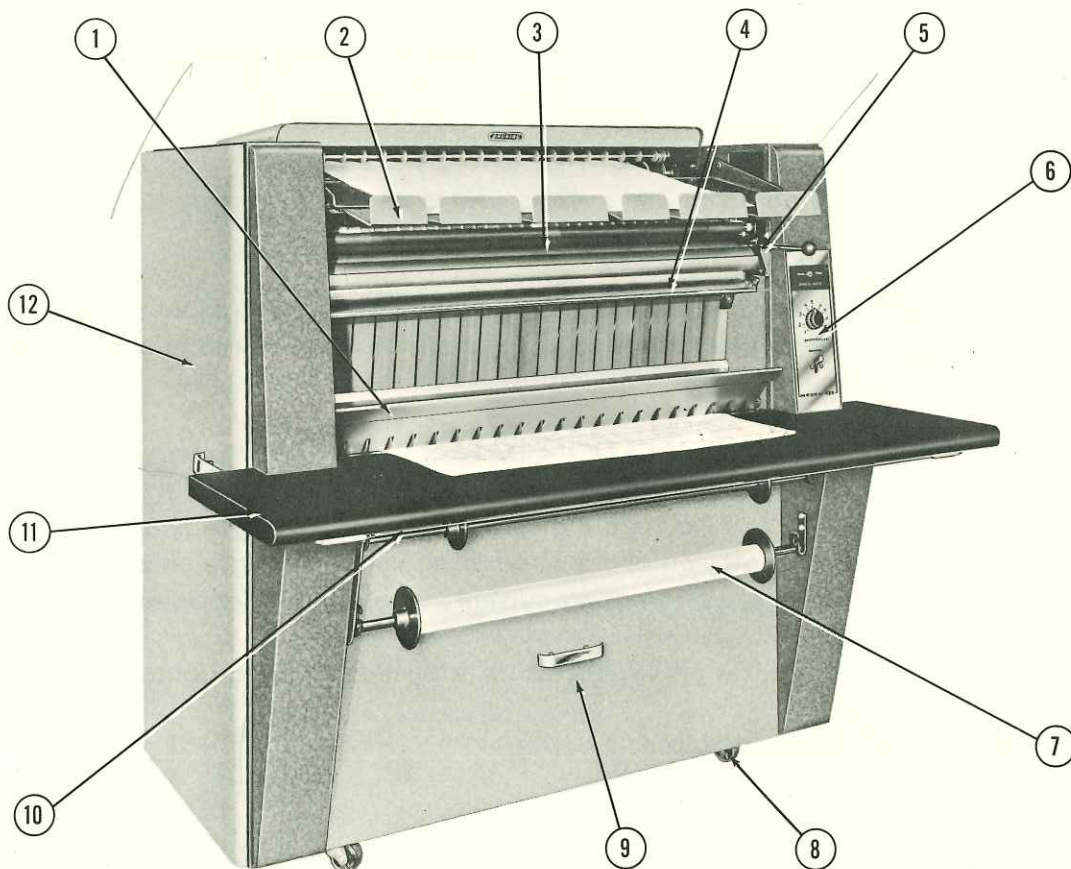
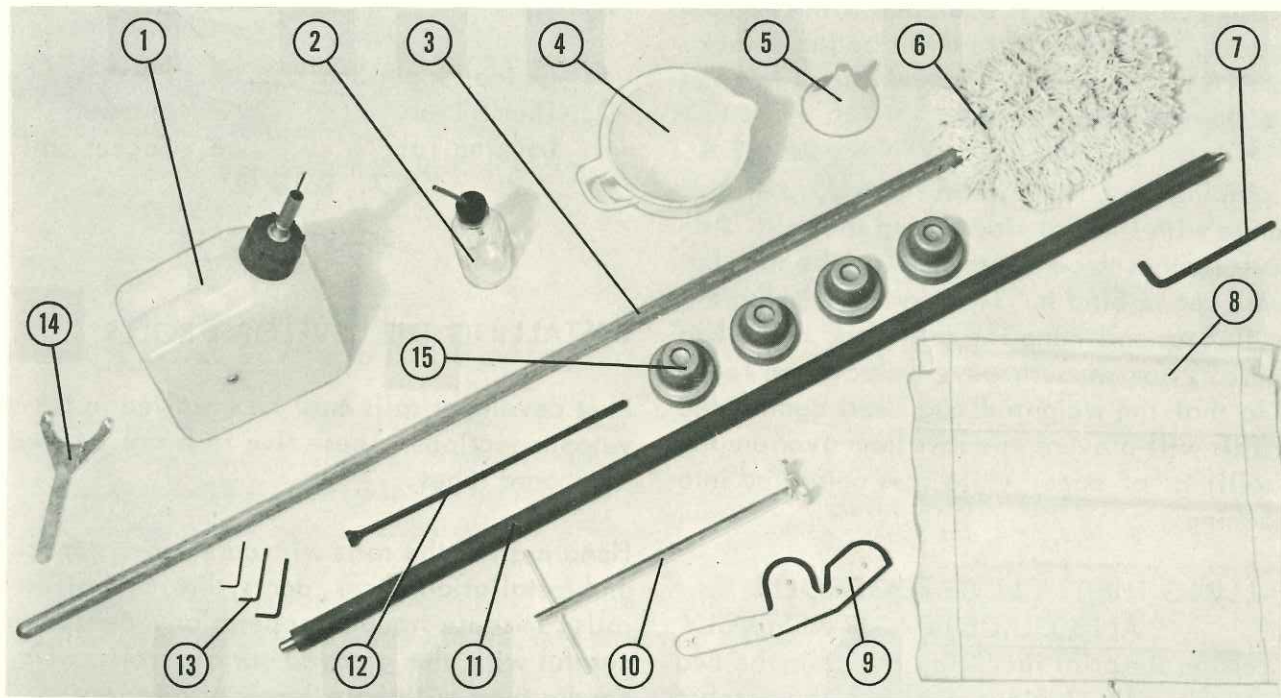
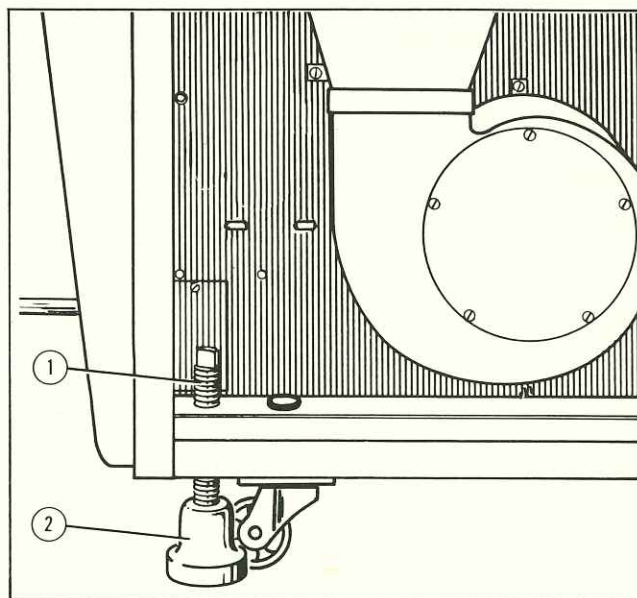

Figure 1. Copyflex Model 430 - Overall View
Figure 2. Model 430 Tools and Accessories
Figure 7. Jack Screw and Leveling Base
In the instructions to follow you will need a working knowledge of the names used to identify certain assemblies and parts of the machine. Figure 1 will help you become familiar with such names as "feed-board", "developer section", "control panel" and other names of the major areas of the machine. Spend a few minutes to study the illustration before reading the rest of the manual. Figure 2 illustrates the tools and accessories shipped with your machine. Some of the items are used during installation. Others are maintenance materials and spare parts.
Your Copyflex machine is equipped with two rods (7, Figure 1) to accommodate sensitized roll stock. To install a roll raise the right end of one rod and remove the flange at that end.
After placing the paper roll on the rod, re-install the flange with the flat side toward the roll. Adjust both flanges to center the roll on the rod, but take care not to bind it. Tighten the thumbscrews in the flanges and hang the roll stock brake bag (8, Figure 2) from the screw-eye beneath the feedboard so that the weighted bag bears against the roll. This will prevent the roll from overrunning and "spilling" of paper while it is being fed into the machine.
- a. Place a leveling base (2, figure 7) under the jack screw (1) at each of the four corners of the machine. (The bases are packed with the tools and accessories. See 15, figure 2.)
- b. Open both side doors and turn the jack screws clockwise until they rest on the bases (See figure 7 for a view of the jacks on the right side).